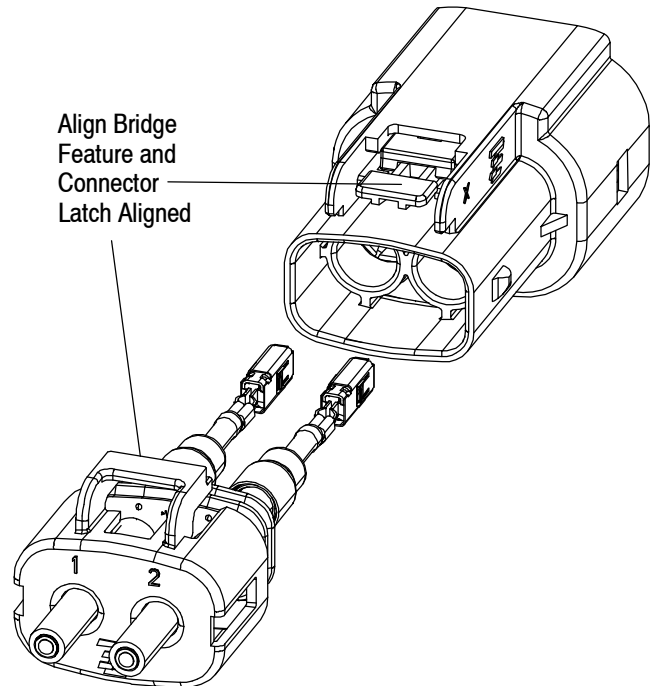

Figure 12
1. Orient the cable assembly such that the bridge feature on the cable seal retainer is aligned with the connector latch as shown in Figure 12.